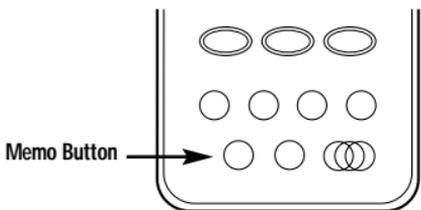

Figure 3-11. Memo button.
1. With the In Use indicator off, press the Memo button (see Figure 3-11).